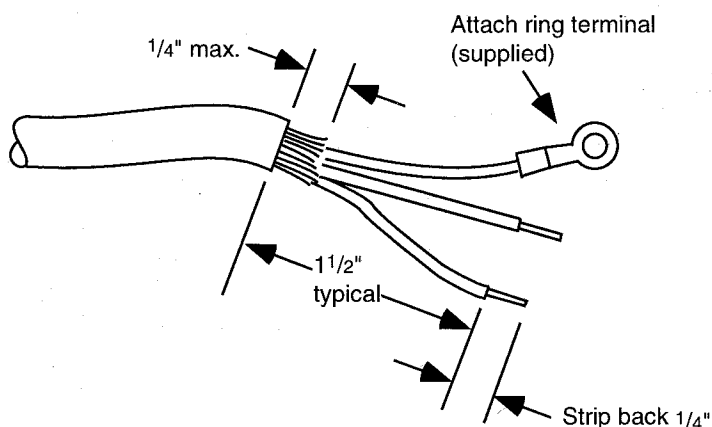

Figure 5 - Preparing Power Cable
- Strip the free end of the wires as shown in Fig. 5.